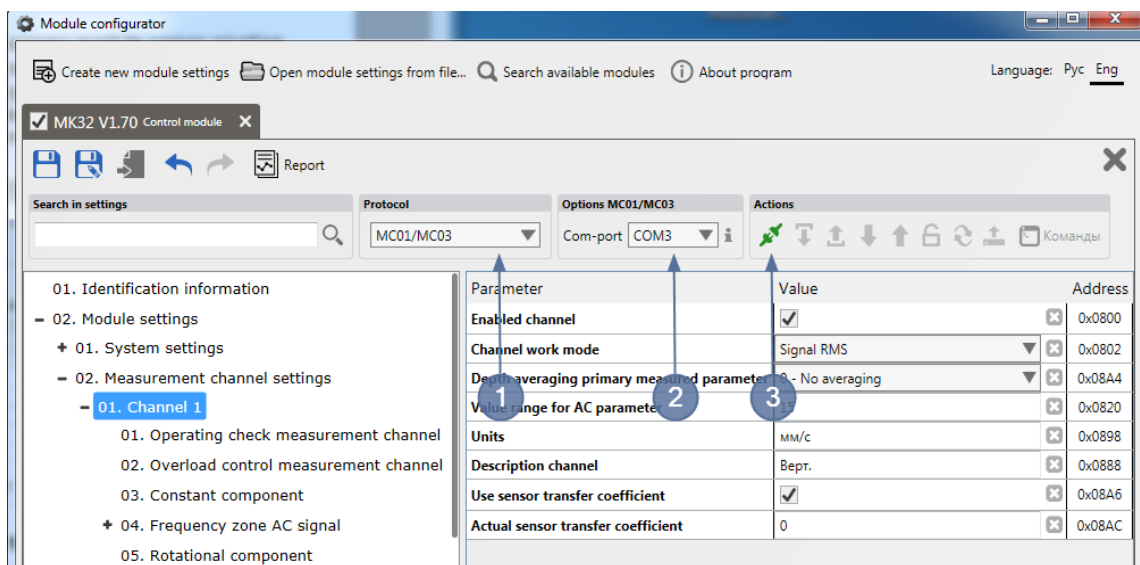

Figure 17 - Module connection procedure
- 3) in communication types list (Figure 17, item 1) select necessary module communication protocol, corresponding to the selected communication interface, for example if a module is connected using MC01, it is necessary to select communication type MC01/MC03;
- 4) in settings of the selected communication type, in this case MC01/MC03, select a com-port to which a module is connected to from a list of available com-ports (Figure 17, item 2).
- 5) press button “Connect” (Figure 17, item 3).